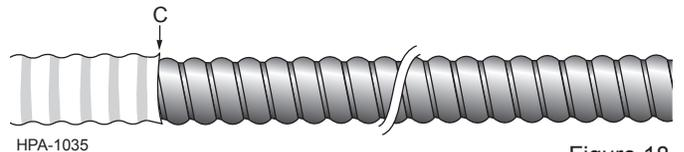

Figure 18
**5.8** Using the hook blade knife, make a ring cut through the outer jacket at the C mark. Remove the outer jacket from this ring cut to the end of the cable to expose the interlocking armor (Figure 18).